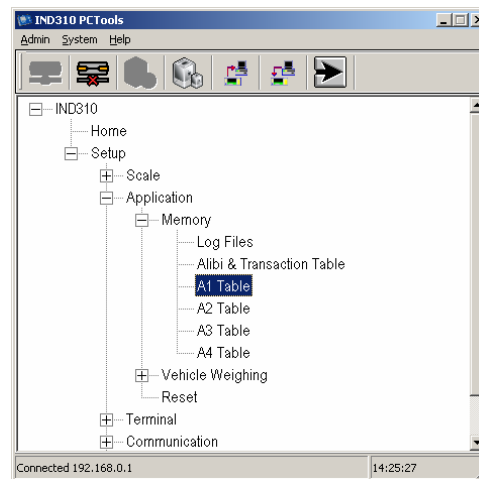

Figure B-13: A-1 Table Selected in the Menu Tree
- Follow the menu tree structure to the desired data table. Figure B-13 shows an example selection of the A1 Table.